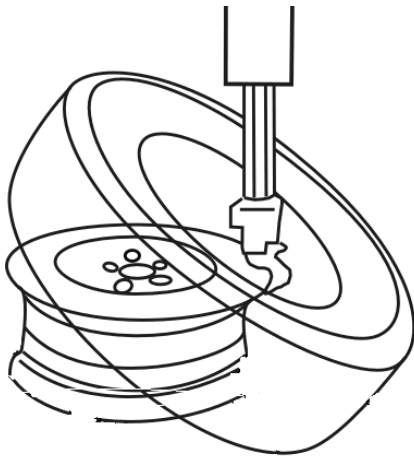

Fig.21
- Put the bead on the rim with the left side upward, pull back swing arm and place it on its working position. (as fig.21)